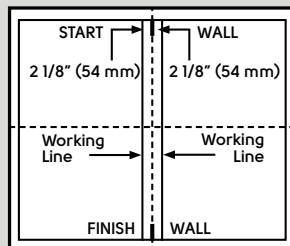
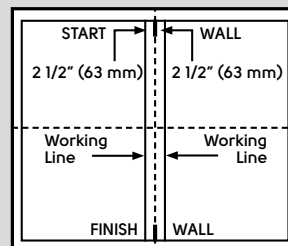

Fig. 2a
Fig. 2b
2. Measure  $2\frac{1}{8}$ " (54 mm) for 6" width planks (Fig 2a) OR  $2\frac{1}{2}$ " (63 mm) for 7" width planks (Fig 2b) from the left and right of the center mark at both ends of the room and strike a chalk line.